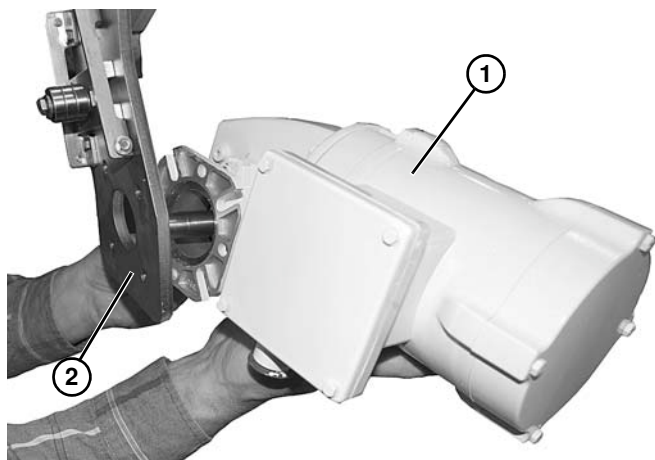
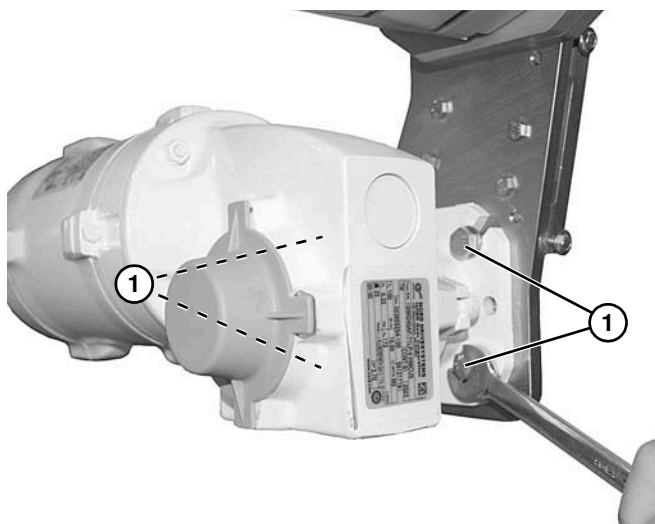

Figure 31
Figure 32
2. Install gearmotor (**Figure 31, item 1**) onto mounting plate (**Figure 31, item 2**) with four screws and washers (**Figure 32, item 1**).